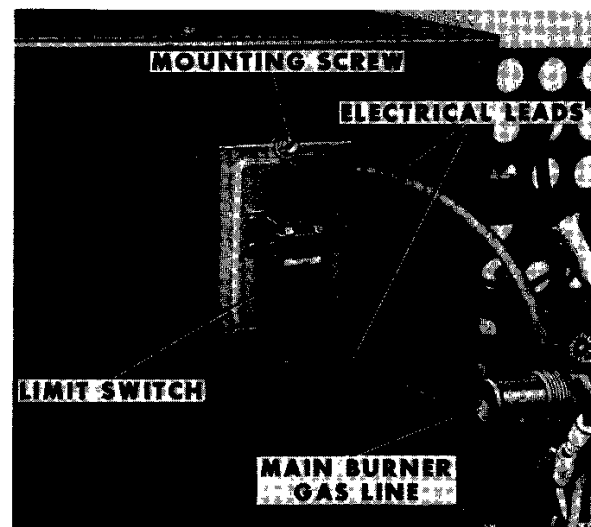

Figure 12 — Limit Switch Installed
2. Disconnect electrical leads from limit switch (Figure 12).
1. Carefully install limit switch into opening on front of combustion chamber assembly. Retain switch in position with mounting screw (Figure 12).